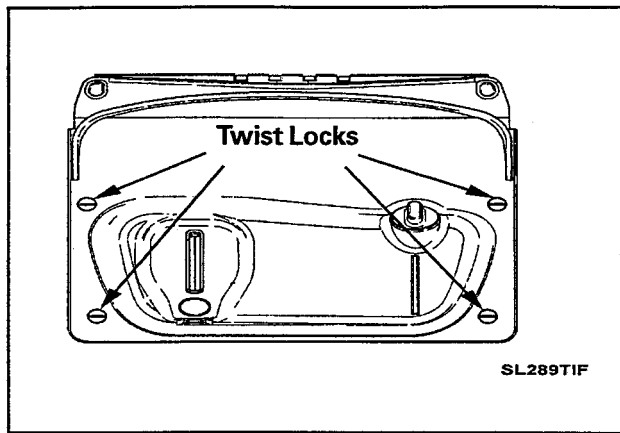

Figure 4-13
1. Turn each of the twist locks on the face of the detergent reservoir 1/4 turn counter-clockwise (*Figure 4-13*).